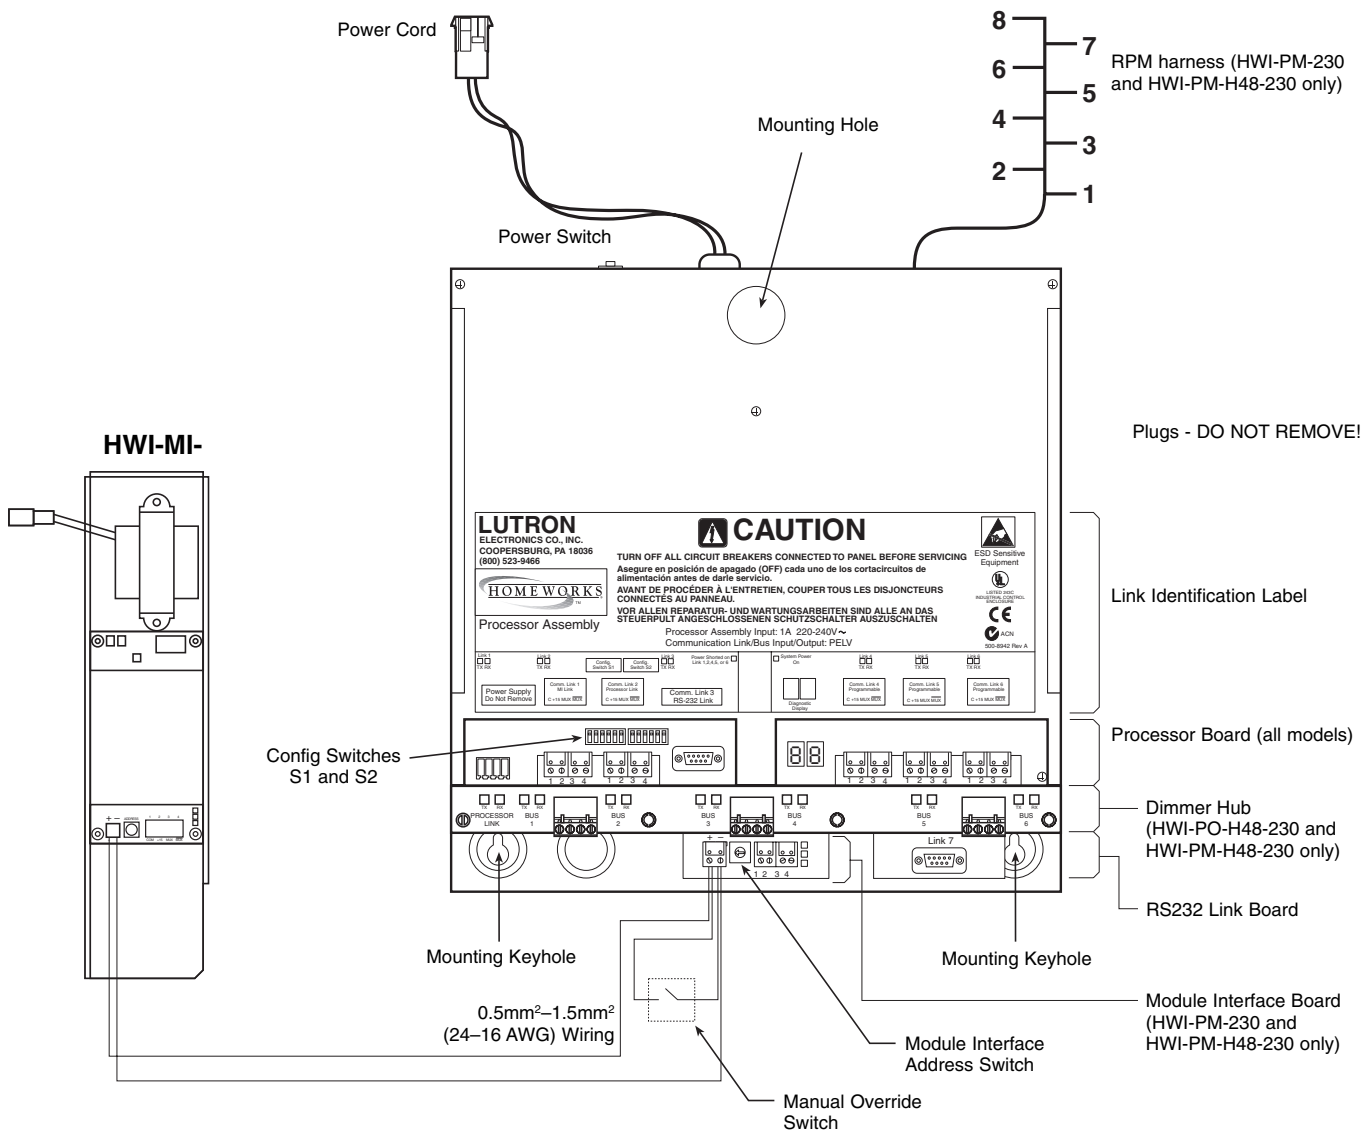

Figure 5 - Link Identification Label
- Confirm that the unit is powered.** Check that the "System Power On" LED is ON (see Figure 5). If it is not ON, check the processor power switch and supply breaker positions to confirm they are ON.
- Check if any links are shorted.** Check if the "Power Shorted on Links 1, 2, 4, 5, or 6" LED is ON (see Figure 5). This indicates that there is a short somewhere in the control wiring for links 1, 2, 4, 5 or 6, between the +15V terminal (2) and the Common terminal (1). Remove the links one at a time to identify which contains the short. The Power Shorted LED will turn OFF when the shorted link is removed.